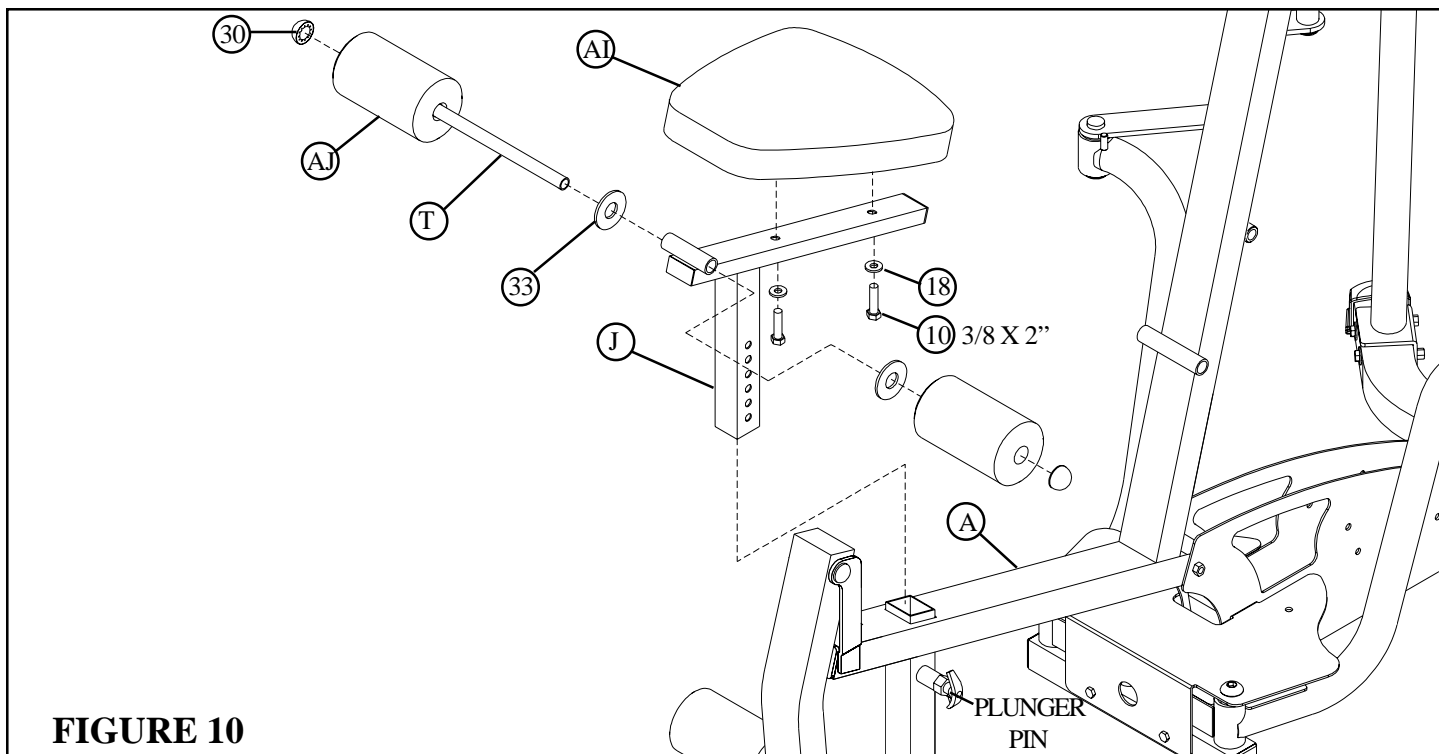

FIGURE 10
- **SECURELY** assemble one SEAT/BACK PAD (AI) to the SEAT ADJUST (J) using two 3/8 X 2" BOLTS (10) and two 3/8" WASHERS (18).
- Assemble two ROLLER PADS (AJ) to the SEAT ADJUST (J) using one 3/4 X 17" TUBE (T), two PLASTIC WASHERS (33) and two STARLOCK COLLARS (30) as shown in FIGURE 10.
- **CAREFULLY** insert the SEAT ADJUST ASSEMBLY into the FRAME (A) as shown. The SEAT height can be adjusted using the PLUNGER PIN.